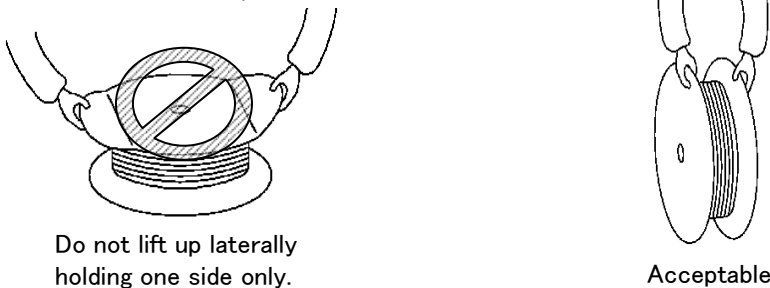

Fig.4
- (1) Avoid leaving or carrying the contact reel in an open area without wrapping it in proper material.
- (2) Do not lift up and carry the contact reel by gripping one the side of reel, this may result in damage to the reel, and contacts before use. (See Fig.4)